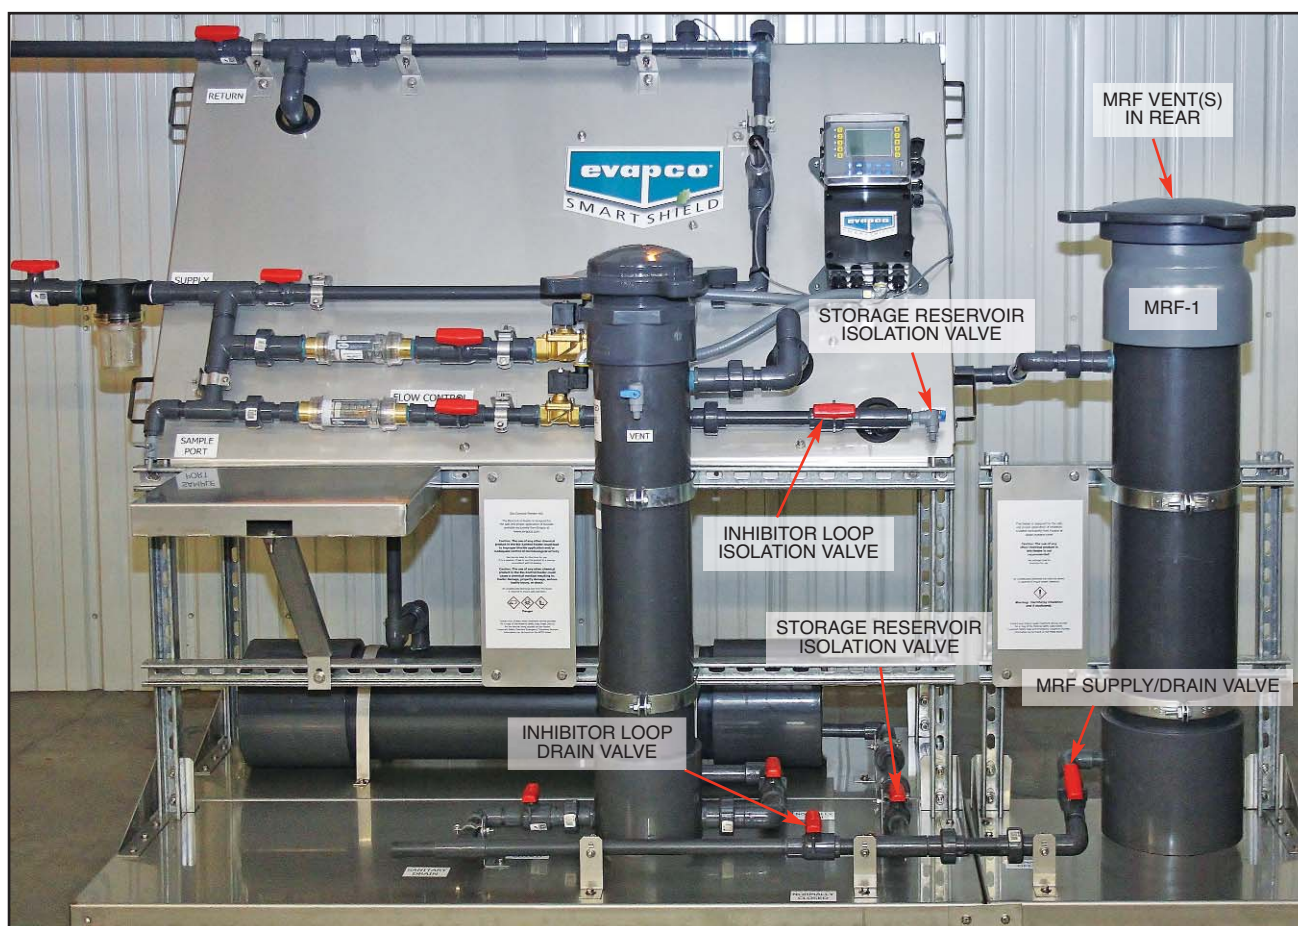

Figure 20 – Loading the MRF
- 6.3.1 The **MRF** can be loaded while the remainder of the system continues to operate. Prior to loading the feeder(s), shown in Figure 20:
- 6.3.1.1 Close the Inhibitor Loop Isolation Valve (see Figure 20 on next page). Verify Storage Reservoir Isolation Valve is open. **DO NOT** use flow valves for isolation.